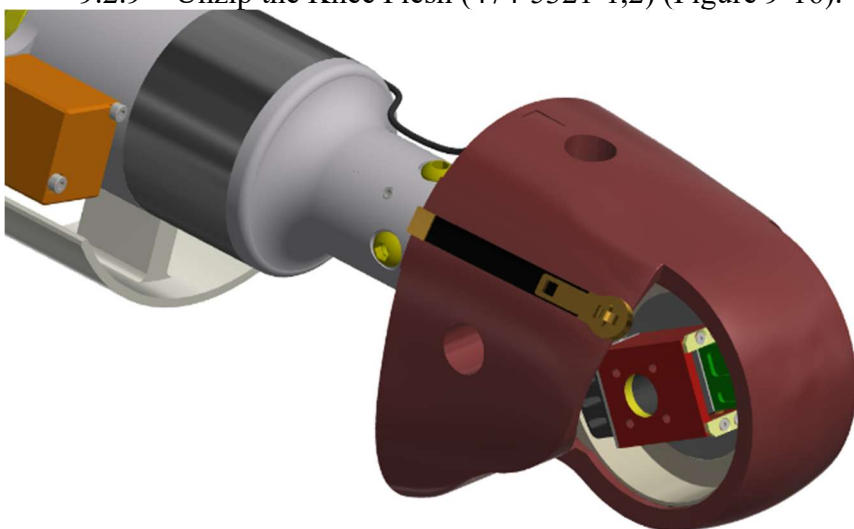

Figure 9-16. Unzip the Knee Flesh (474-5321-1,2)
9.2.9 Unzip the Knee Flesh (474-5321-1,2) (Figure 9-16).